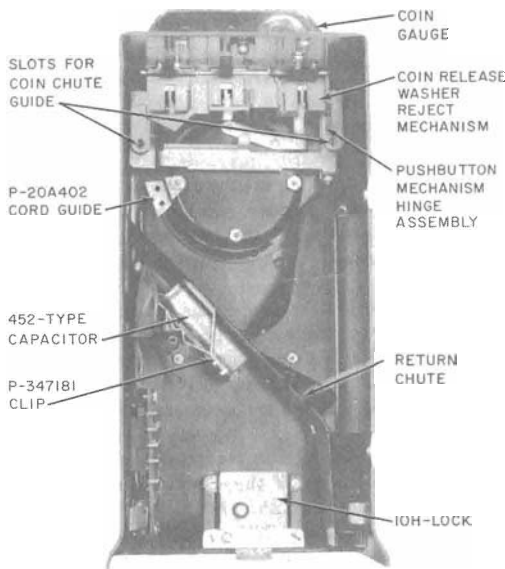

Fig. 10—Upper Housing, Coin Chute Assembly Removed
**2.17** Coin collectors using coin chute assemblies equipped with a P-349754 gong assembly have the 452-type capacitor associated with an electromagnet. It mounts on the upper housing underneath the coin chute with a P-347181 clip (Fig. 10).